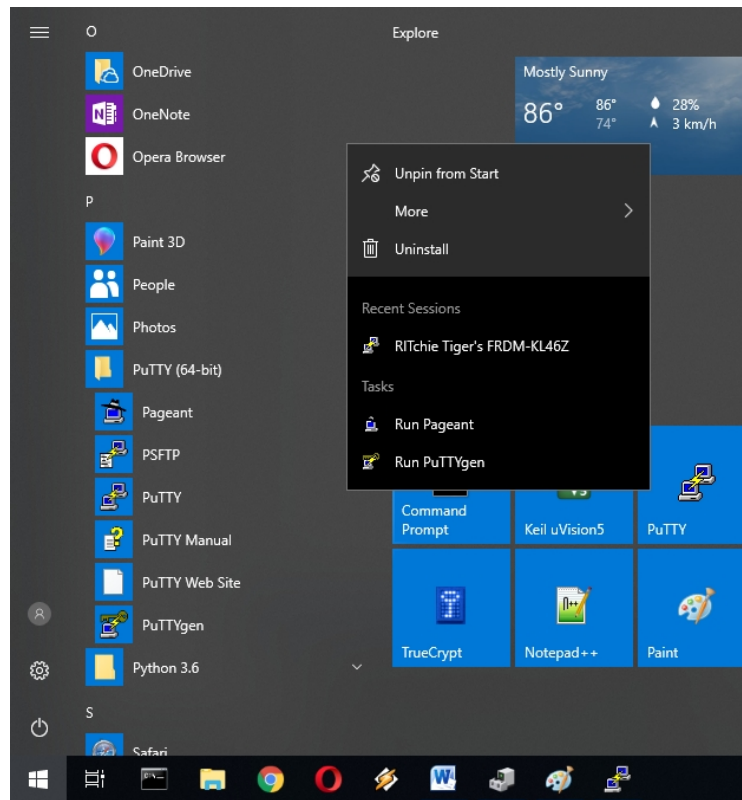

Figure 15. Launching PuTTY with a saved session
- 🖥️ If usage history is enabled in Windows, the saved session can be loaded directly when launching PuTTY by right-clicking the  PuTTY icon and then selecting the saved session name from **Recent Sessions** in the pop-up menu, as shown in Figure 15.